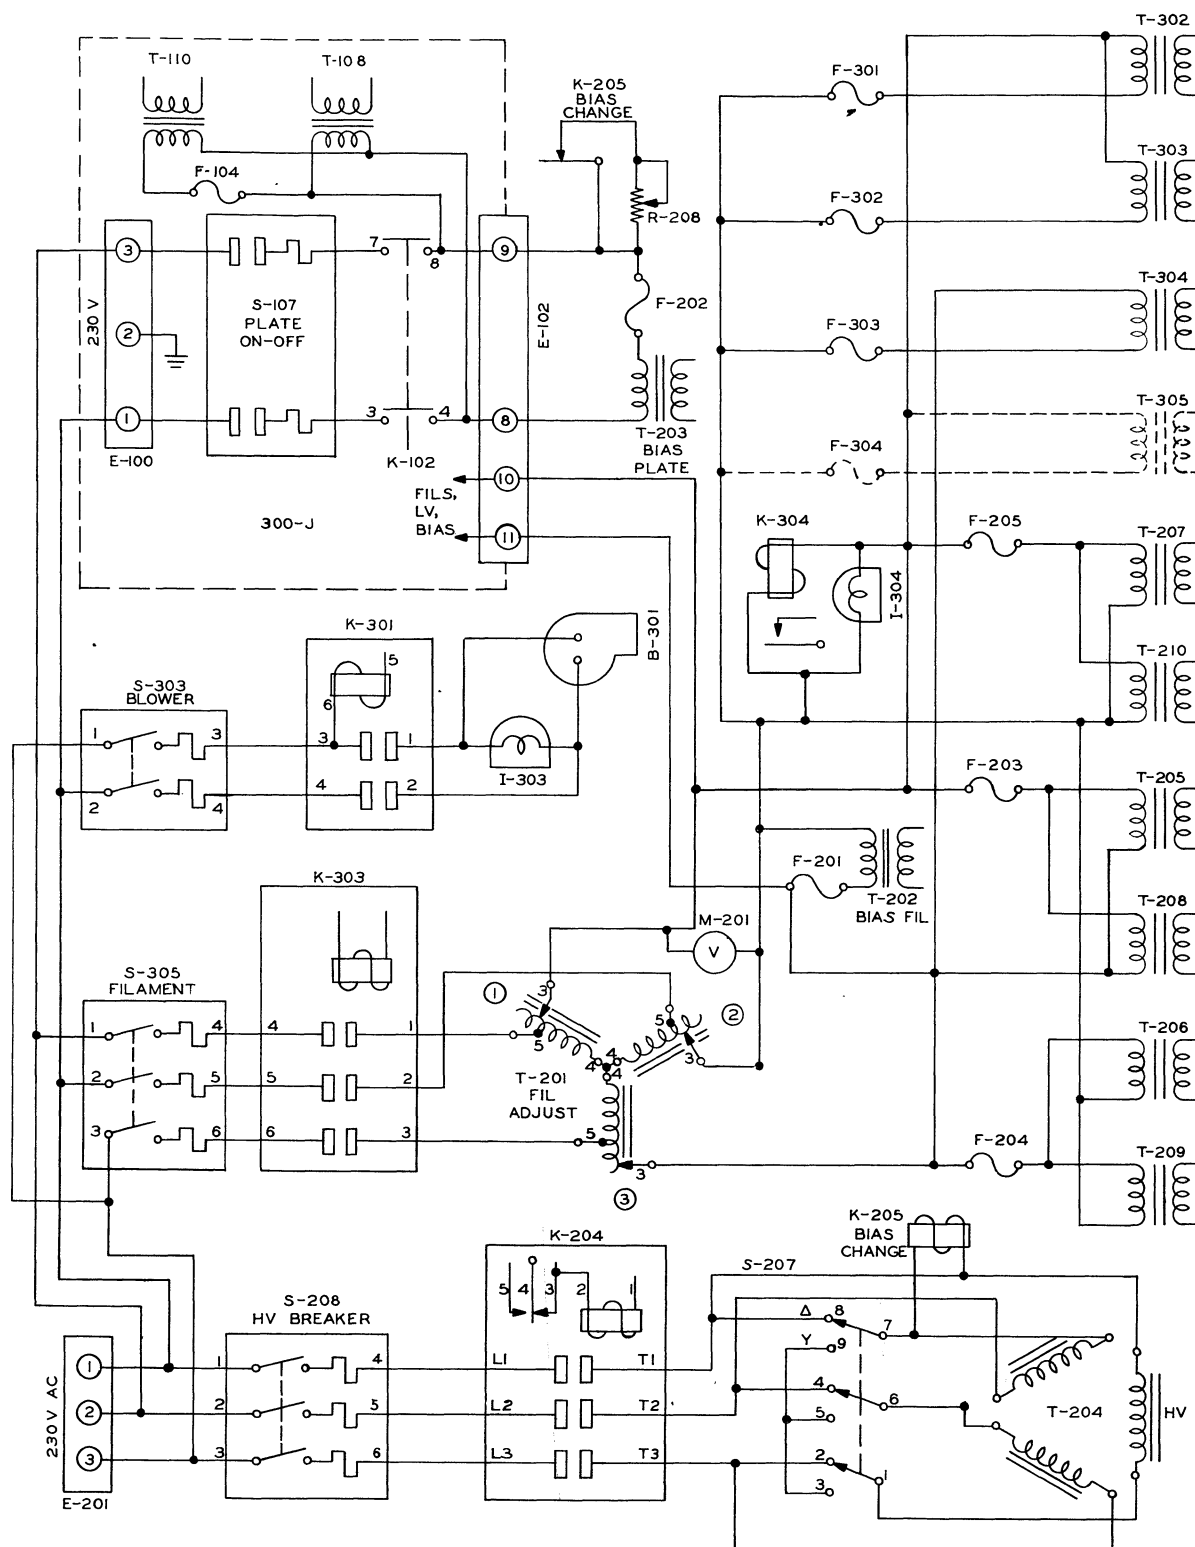

Figure 4-1. Primary Power Circuits.
The bias supply consists of a rectifier filament transformer, T-202, which is excited simultaneously with application of transmitter filament power, a full-wave plate transformer, T-203 which is excited upon application of plate power to the driver cabinet, a pair of 866A rectifiers and a suitable choke input filter. A variable resistor, R-208, in the primary lead of T-203 is shorted out by contacts of bias change relay K-205, when the transmitter is operating high power. R-335 and R-336 select the bias needs for the modulators in high-power operation and R-208 in low-power operation. (See figure 4-1). The value of bias for the RF power amplifier tubes is pre-determined by voltage divider R-338 and R-339. The maximum output voltage of this supply is minus 1200 volts.
a. FILAMENT. (See figure 4-1) T-201, FILAMENT ADJUST is a 3 phase, 230 v, adjustable autotransformer used to adjust the primary voltage to all the filament transformers in the 21E/M transmitter.
b. PLATE. (See figure 4-1) The 3 phase 230 volt current to excite plate transformer T-204 flows first through HV BREAKER switch S-208 then through high voltage contactor K-204 and through HV-LV switch S-207. S-207 is connected to select primary taps for power-change. Paragraph 4.4.1. explains the circuit to get high voltage contactor K-204 energized.
If the transmitter fails to start, circuits should be checked in the order in which they are made operative. The Primary Control Circuit Diagram, figure 4-1, should be of assistance in locating trouble in the primary circuits. Table 3-1, Typical Meter Readings, and Table 5-1, Typical Voltages and Currents, are supplied as a reference of typical voltages and currents in an average 21E/M transmitter. A list of typical readings of all panel meters of the individual transmitter should be made as an aid to rapid trouble shooting.